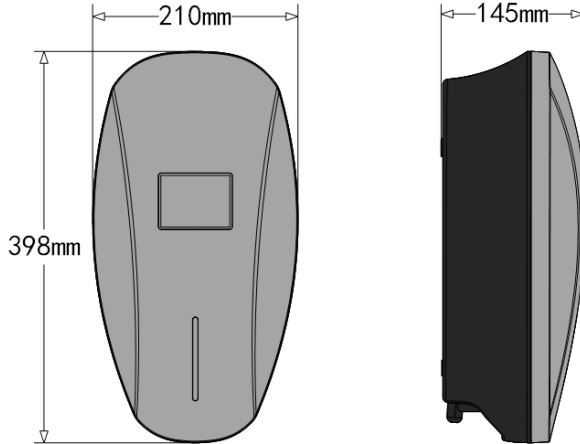

Fig. 4-1 The shape & dimensions of HM10 series
- The shape & dimensions of AC EV charging station shown as Fig. 4-1.